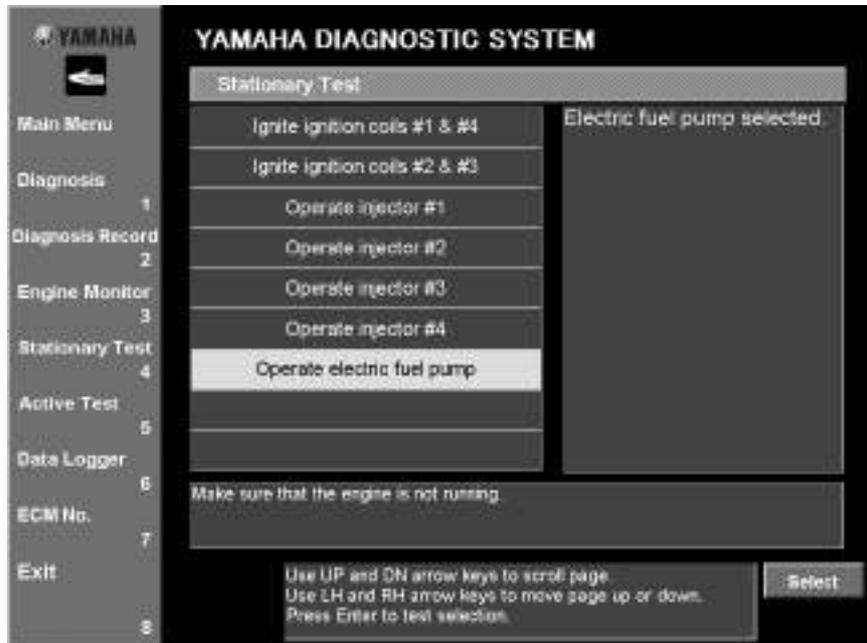

Fig. 52
1. Select the test to be performed, and then click the **Select** button or press the Enter key on your keyboard. (Fig. 52)